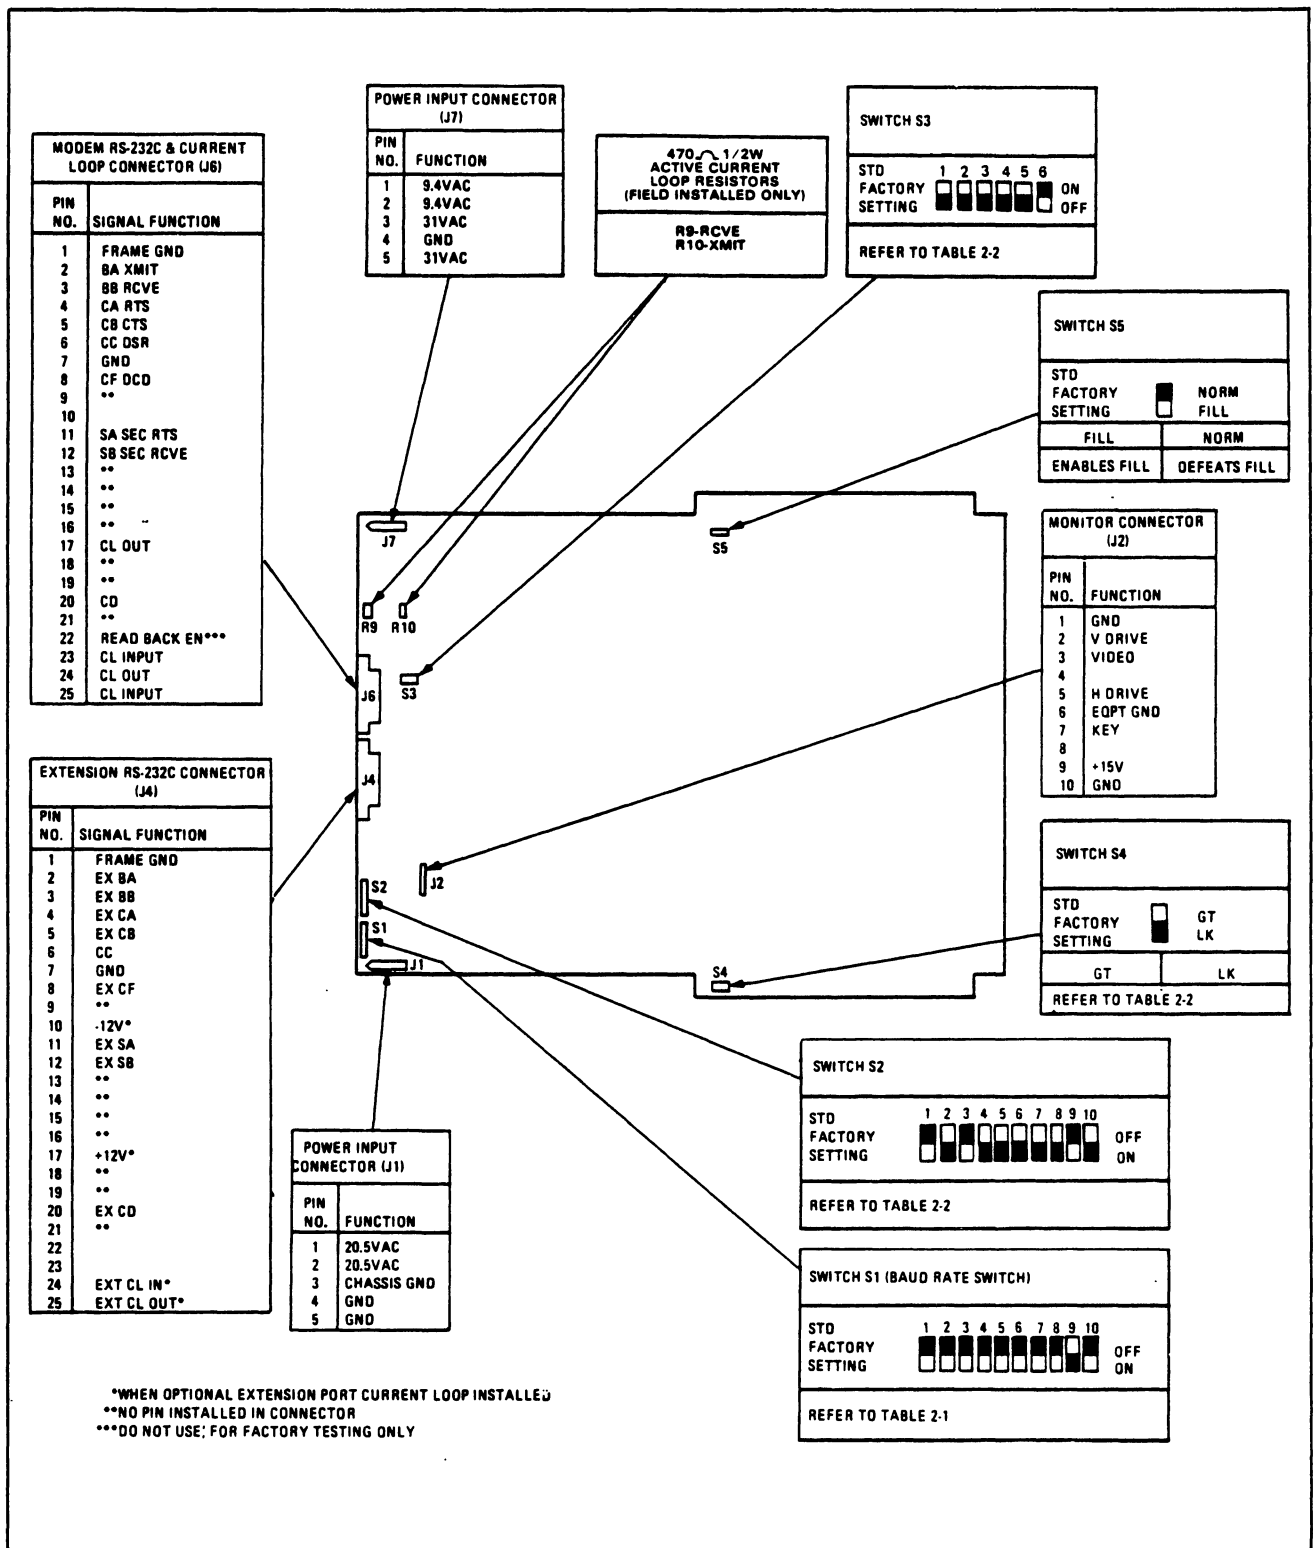

Figure 2-1. ADM 5 Connector and Configuration Switch Locations
DIP switches located on the main logic board are provided for establishing the default state of selected system operating characteristics. These switches are initially set at the factory in accordance with customer requirements, as expressed on the Terminal Ordering Form. Any required switch settings should be made before attempting to operate the terminal. Figure 2-1 shows the location and identity of the configuration control switches, as well as connector/pin designations. Tables 2-1 and 2-2 describe the function and factory setting of each switch.
The ADM 5 may be cabled directly to a local computer, or it may be connected via telephone data lines to a remote computer located anywhere in the world. Remote computer connections require the use of a modem or data set. Refer to **figure 2-1** for the connector/pin assignments for the MODEM and EXTENSION ports. **Figure 2-2** shows a typical ADM 5 application.
2. Connect the interconnect cable(s) using the appropriate information in figure 2-1 and 2-2.